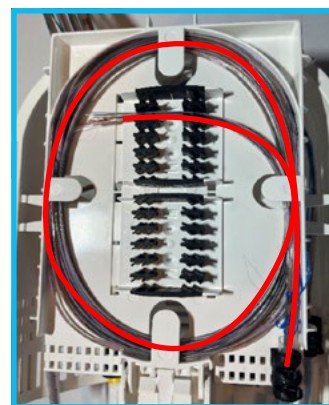

Figure 32
2. Fibres entering the right-hand side of the tray should loop 3 times (>1m) and enter the right-hand side splice protector holders from the top position down [Figure 32].